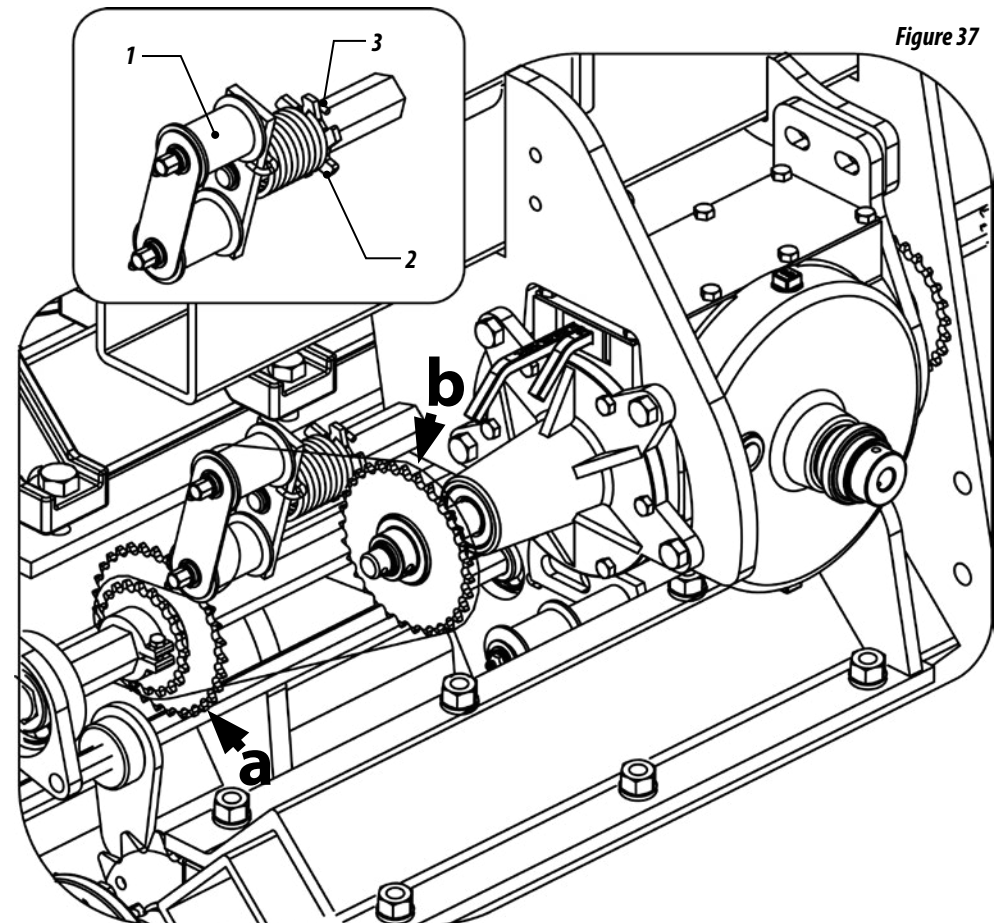

Figure 37
- 6- The tensioner (1) is provided with a tension spring for greater flexibility, and for greater pressure on the tensioner, turn the rosette (2) through the spring coupler (3) to the other tooth of the rosette. Figure 37.